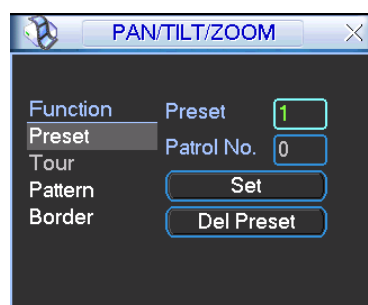

Figure 4-36
In Figure 4-33, please click the “set” button. The interface is shown as below. See Figure 4-36. Here you can set the following items:
- The following setups are usually operated in the Figure 4-33, Figure 4-36 and Figure 4-37 .
In Figure 4-36, click preset button and input preset number. The interface is shown as in Figure 4-38.
In Figure 4-36, click patrol button. The interface is shown as in Figure 4-39. Input preset number and add this preset to a patrol (tour). For each patrol (tour), you can input max 80 presets.
In Figure 4-36, input patrol (tour) number in the No. blank and click patrol button
In Figure 4-36, click pattern button and then click “begin” button. The interface is shown as in Figure 4-40. Then you can go to Figure 4-33 to modify zoom, focus, and iris.
In Figure 4-36, click border button. The interface is shown as in Figure 4-41.